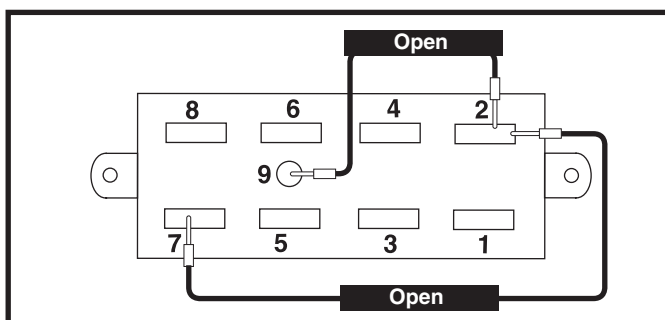

Figure 35. Connector 2a
2. Measure resistance across pin 2 and pin 9 and across pin 2 and pin 7 on connector 2a. **See figure 35.**
- *If your multimeter indicates an open on either test*, then replace the VSI controller (1) and retest the system.